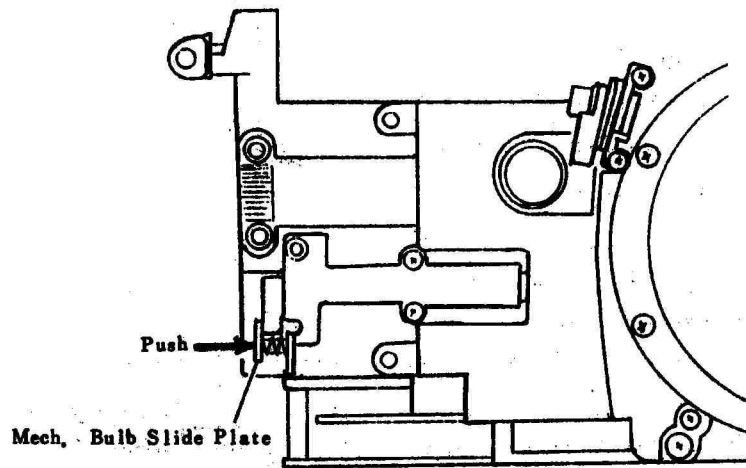

Fig 169
2. Push the Mech. Bulb Slide Plate to the right (Body mount side). (See Fig. 169)